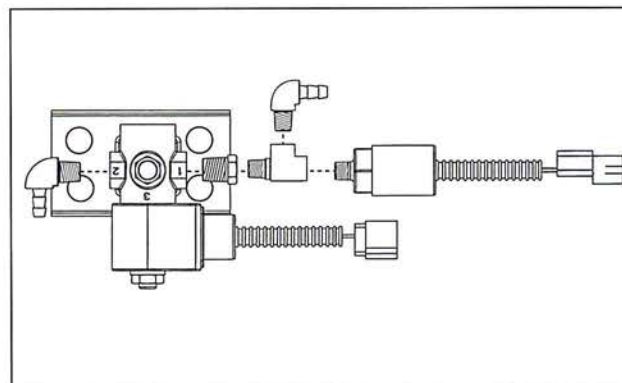

Fig. 7
- Attach the Pressure Switch and hose fittings and adapters to the solenoid (see Fig. 7).
- e. Attach the Vacuum Solenoid to the mounting bracket using the two #8-32 screws supplied in the kit, using Loctite® 242 on the screw threads. Refer to Fig. 7 for proper orientation of the solenoid on the bracket.
- b. Route the hose over the heating/air conditioning lines, keeping the hose away from the exhaust manifold and header pipe. Attach the other end of the hose to the 90° elbow connected to the solenoid port marked "2" (see Fig. 7).
Connect one end of the 6" length of 1/4" vacuum hose supplied in the kit to the barb connector on the solenoid port marked "1" (See Fig. 7). This hose will attach to the polytube on the wire harness when the harness is installed in Section 4.